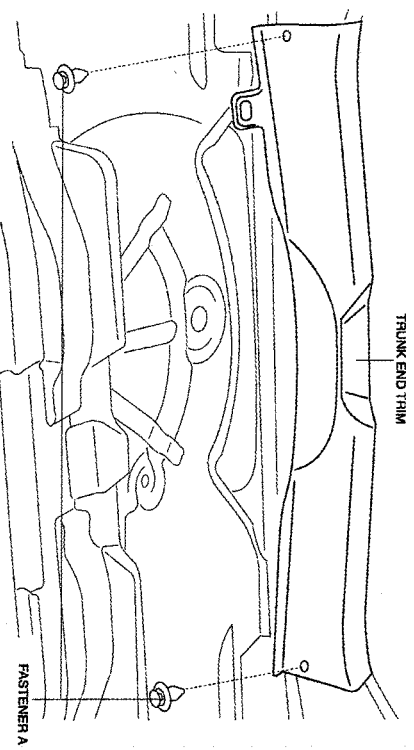

FIGURE 38
- 1.) REMOVE THE TWO FASTENERS A. (SEE FIGURE 38)